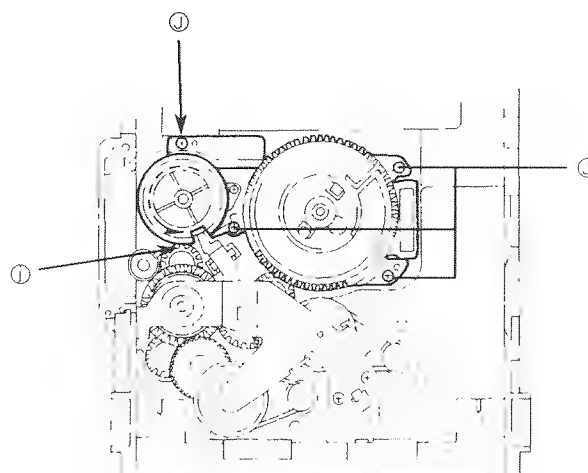

Fig. 43
4. Rotate the Cam gear L so that the select gear's ⑥ is positioned as shown in Fig. 43.
5. Remove 4 screws ⑦ securing the cam unit which includes the cam gear L and Cam R1, R2 ass'y. (See Fig. 43.)